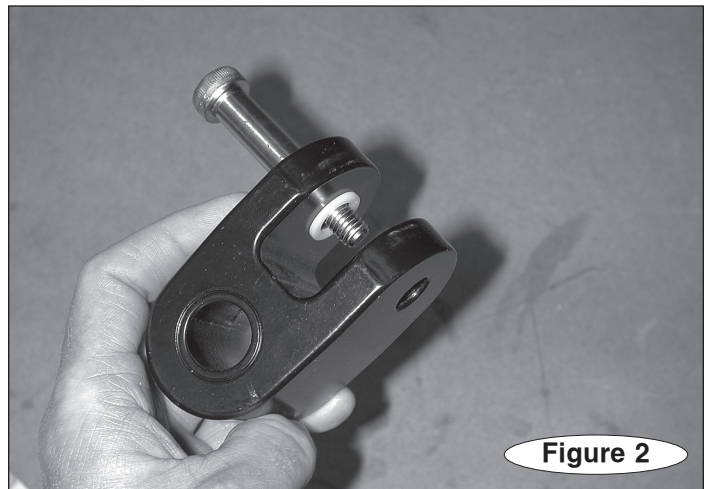

Figure 2
3. Insert the replacement shoulder bolt and one replacement ¾" acetyl washer through the collar, as shown in Figure 2.